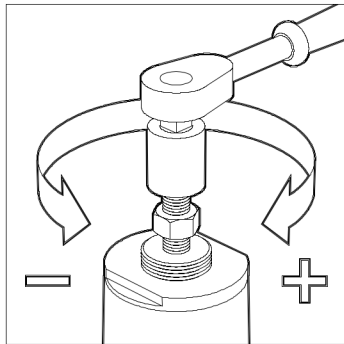

Fig. 5.
- 4) For H.P. 50mm and 80mm unit, slacken locknut on spring adjusting stem and connect suitable spanner (24mm A/F) to hexagon of spring adjusting stem. See Fig. 5.